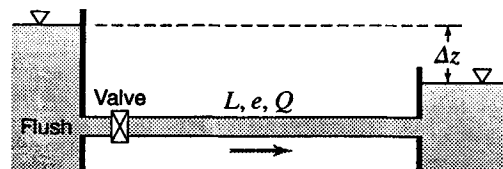

Figure P8.69
8.69 A 150-m-long commercial steel pipe is to convey 30 L/s of oil ($s = 0.9$, $\mu = 0.038 \text{ N}\cdot\text{s}/\text{m}^2$) from one tank to another (submerged discharge) where the difference in elevation of the free liquid surfaces is 2 m (Fig. P8.69). The pipe entrance is flush, and there is a fully-open gate valve in the line. Using only a basic scientific calculator, find the diameter theoretically required. (Hint: It may be easier to try for D than for f in this case.)